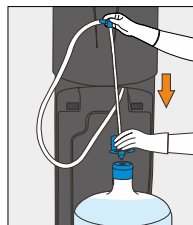

Figure 17
6. Install Spike Cap through the bottle cap (do not remove Bottle Cap) and press down to secure (Figure 17)